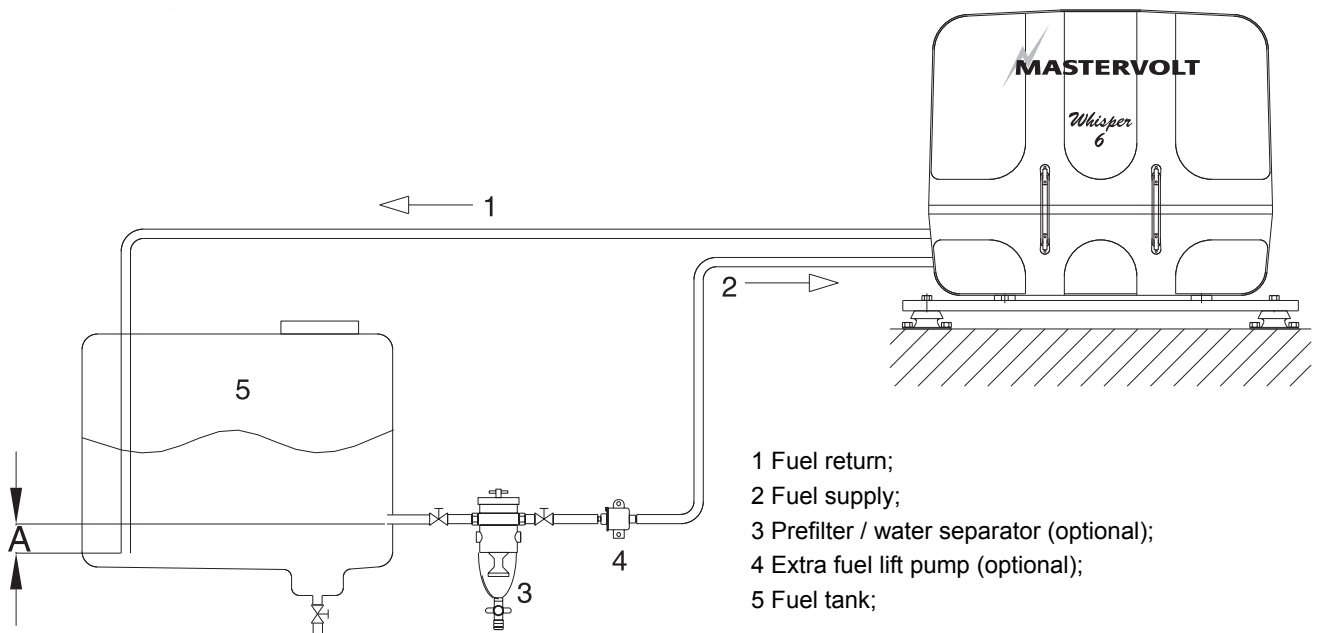

Fig. 4: Fuel supply (fuel tank is above the generating set)
When the tank is below the generating set (figure 4) we recommend ending the return line on the bottom of the tank (A) below the inlet of the supply line to discharge under the lowest fuel level. This prevents air getting into the fuel line. Here also one needs a fuel cock only in the supply line